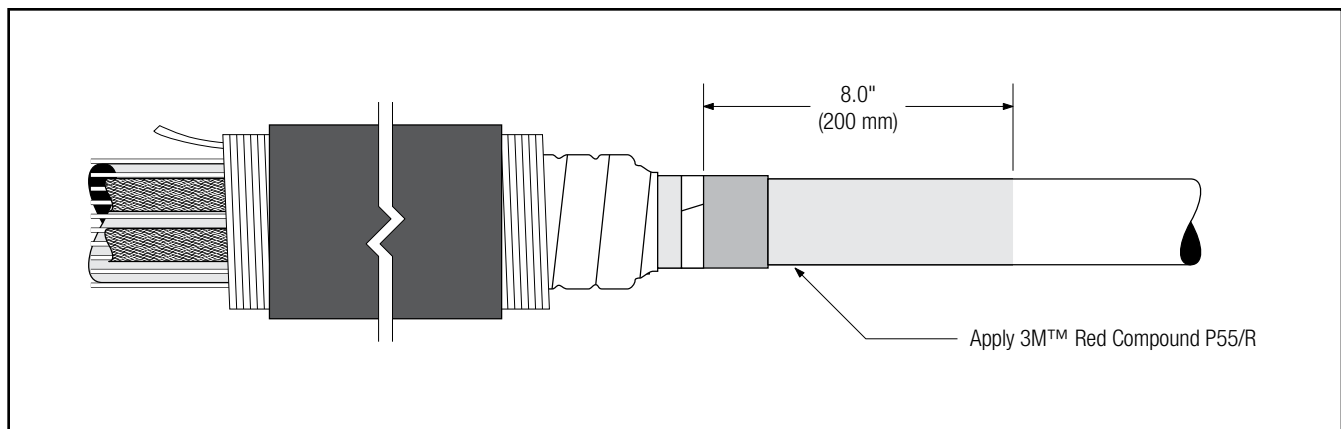

Figure 22
- 6.3 Apply 1 tube of 3M™ Red Compound P55/R starting at marker tape and continuing onto the cable insulation for approximately 8" (200 mm). (Figure 22)